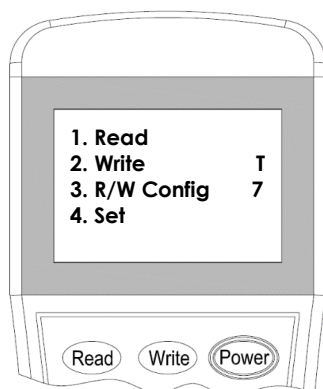
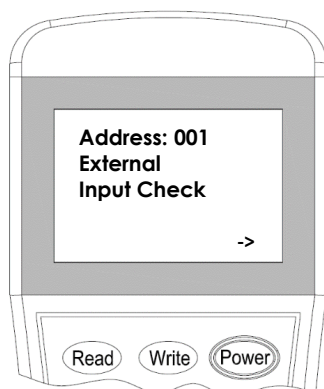

Figure 16
Figure 17
2. Switch-on the programmer, then press button **“Read”** or **“1”** to enter to Read mode (Figure 16). The programmer will display the configuration after few seconds. (Figure 17).